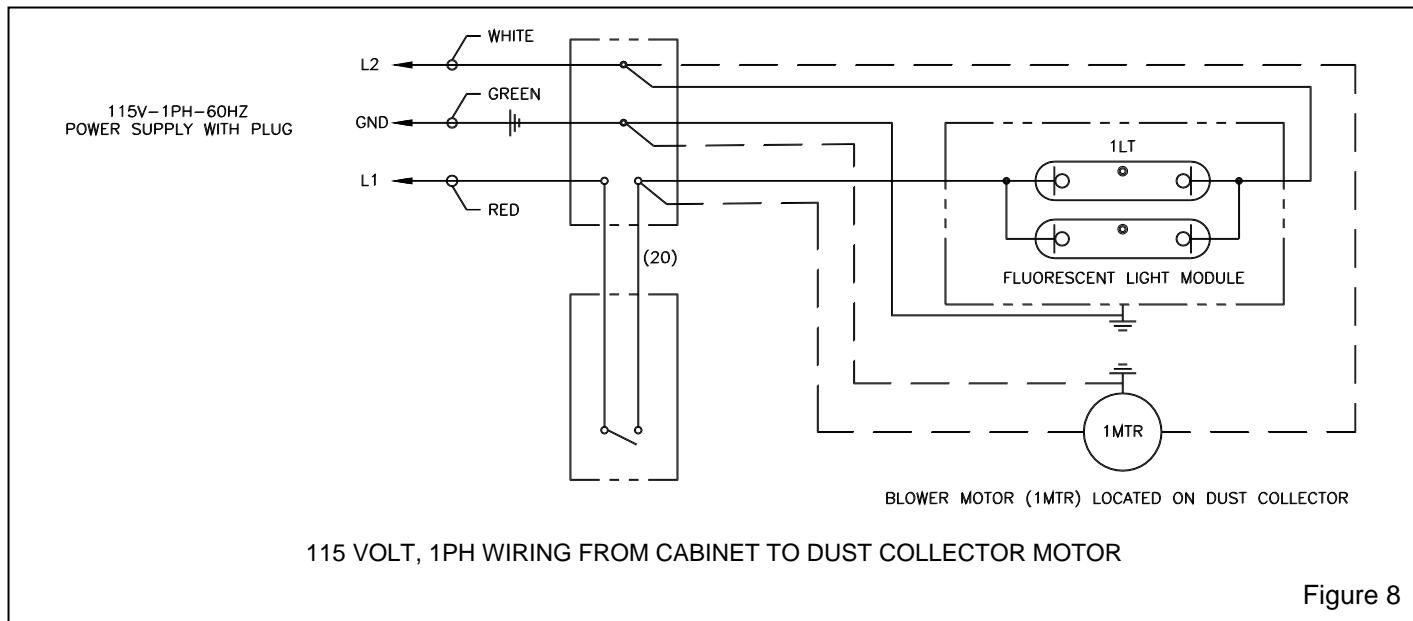

Figure 8
2.9.2.1 Refer to the wiring schematic in Figure 8. Wire the dust collector motor per instruction on the motor data plate to the junction box mounted on the cabinet. When wired as noted in Figure 8, the exhaust motor will start when the cabinet light switch is turned ON and stop when the switch is turned OFF.